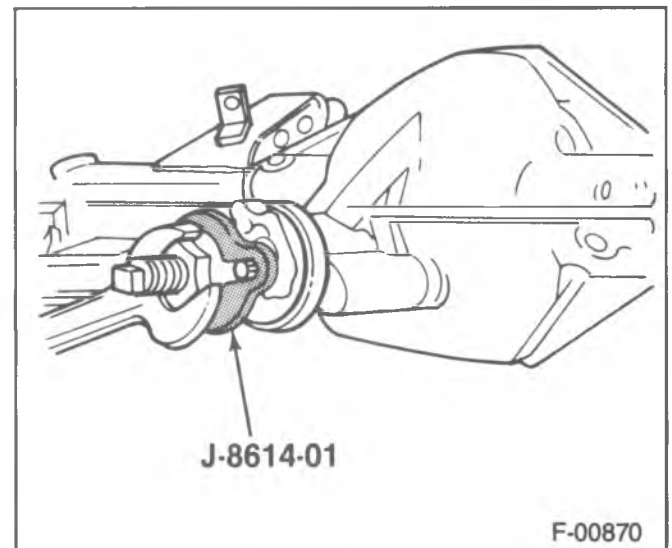

Figure 21—Installing the Pinion Flange
- Place washer and nut on the pinion threads and tighten the nut to the original scribed position using the scribe marks and exposed threads as a reference (figure 21). **DO NOT ATTEMPT TO HAMMER THE FLANGE ONTO THE PINION SHAFT.**